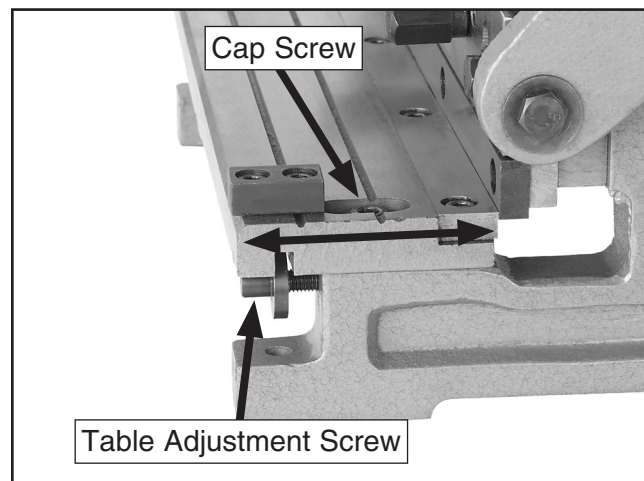

Figure 57. Table adjustment controls.
1. Loosen the cap screws on either end of the shear table that secure it to the machine (see **Figure 57**).